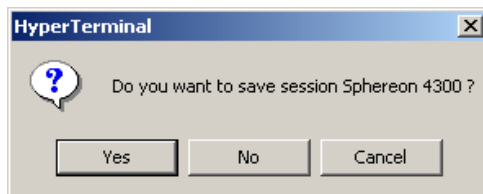

Figure 2-27 HyperTerminal Dialog Box (2)
13. Click **Yes**. A second HyperTerminal message box appears (Figure 2-27):